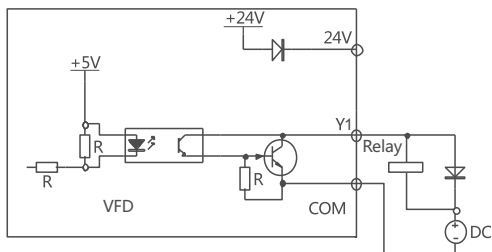

Figure 4.18 Multi-function output terminal wiring mode 2
(2) The multi-function output terminal Y1 can also use an external power supply, and the wiring method is shown in Figure 4.18.